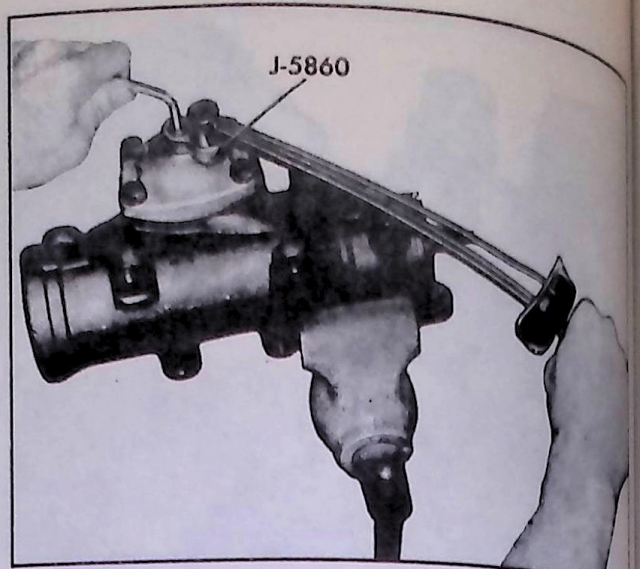

Fig. 60-Torquing Over-Center Locknut
- e. While holding the adjusting screw, tighten the locknut to 25 ft. lbs. using using Adapter J-5860 (Fig. 60) and recheck the adjustment.